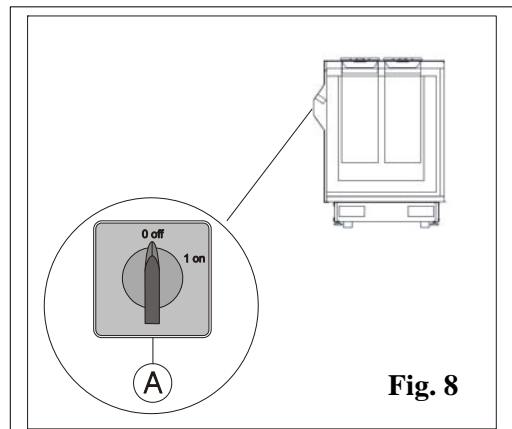

Fig. 8
- 2) Activate the display cabinet master switch, which is found on the rear protection panel. To introduce the electric power supply to the display cabinet, place the master switch at position "1" (fig. 8 pos. A).
To stop the plant act on switch (A), which is found behind the rear protection panel. Position the master switch at “0” (fig. 8 pos. A) disconnecting the display cabinet power supply.